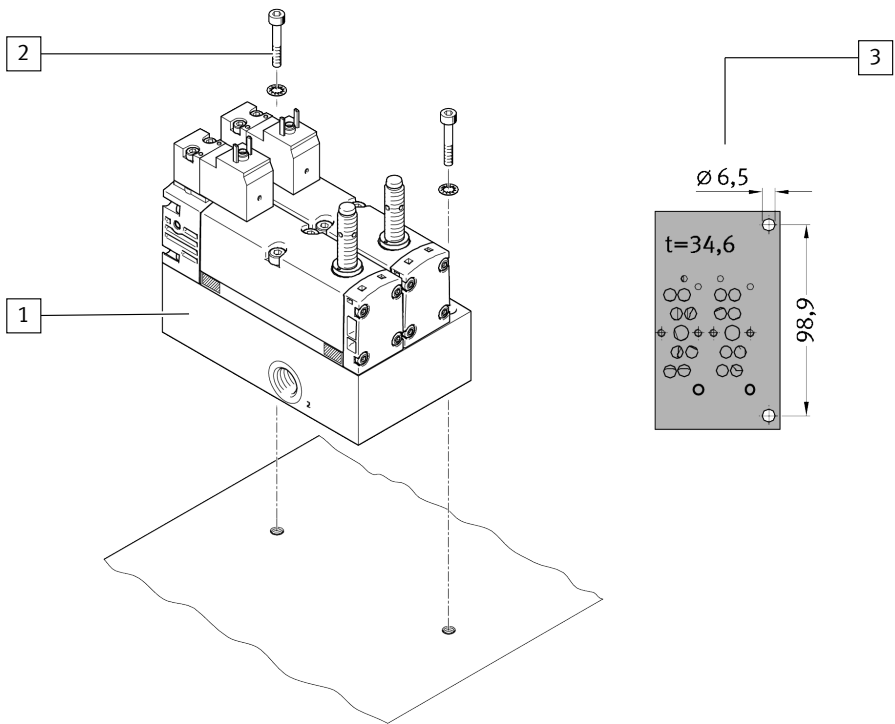

Fig. 5: Mounting/assembly of the control block
2. Fasten the control block using the intended drilled holes → Fig. 5. Refer to the hole pattern for the required dimensions.